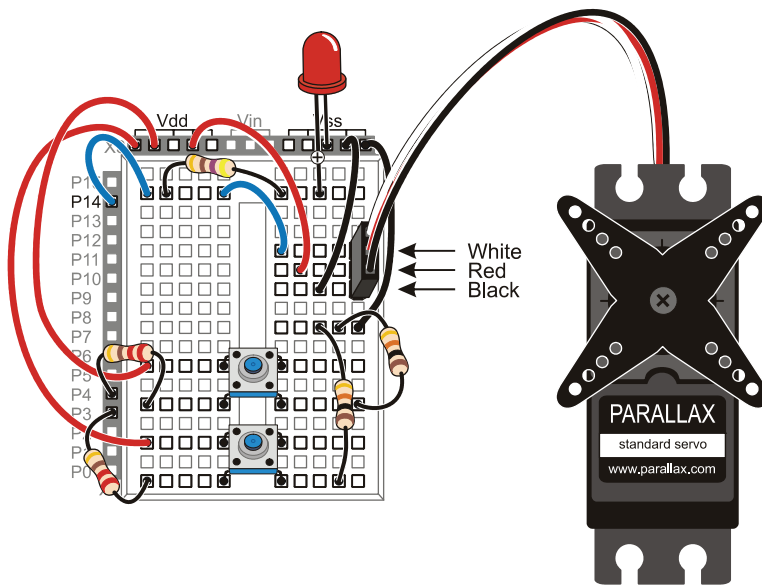

Figure 4-28
- Figure 4-28 if you are using a BASIC Stamp HomeWork Board (Rev C or newer).